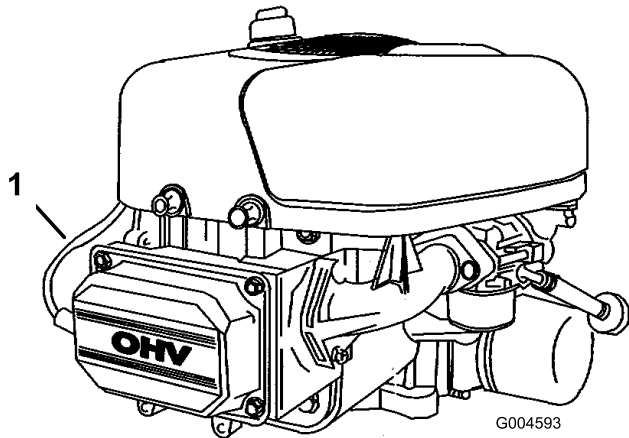

Figure 23
7. Disconnect the wire from the spark plug (Figure 23).
3. Connect the wire to the spark plug (Figure 23).